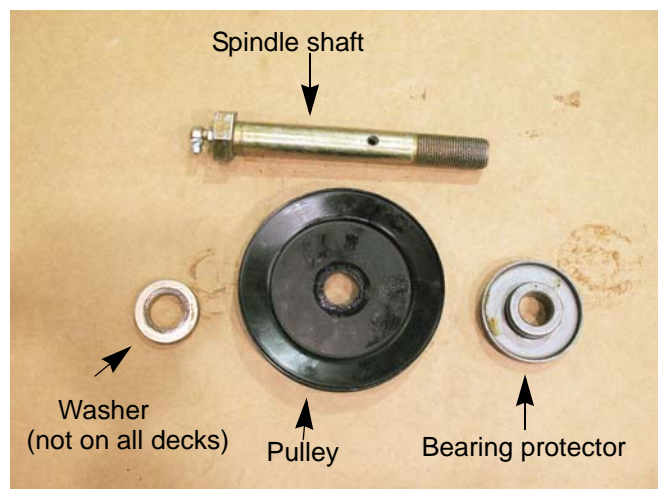

Figure 8.13
5. Remove the pulley. See Figure 8.13.